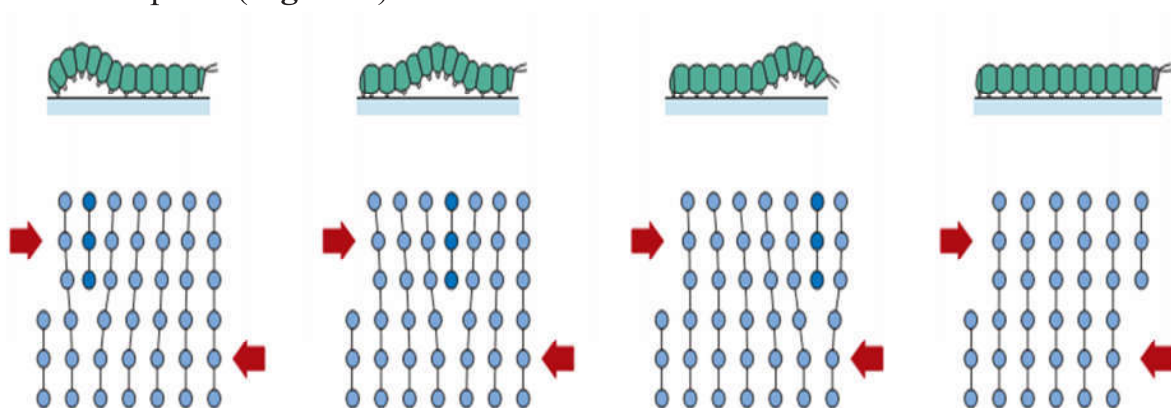

Figure 8 Dislocation motion
- 1) Plastic deformation corresponds to the motion of dislocations. If dislocations don't move, deformation doesn't occur. Dislocation motion is similar to the mode of motion employed by a caterpillar (**Figure 8**).
- 2) Under low shear stress metallic atoms slide over each other, and dislocation be stable on the sides. (**Fig. 8**)